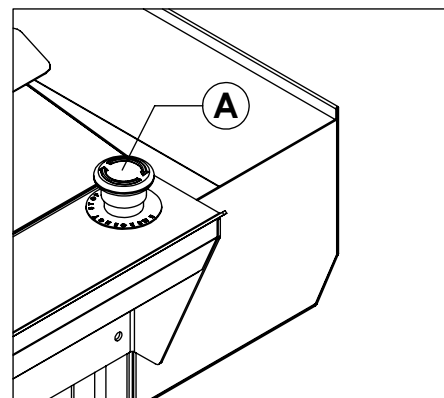

Figure 1
- Make sure that urgent stop button is open. (Figure.1-A)